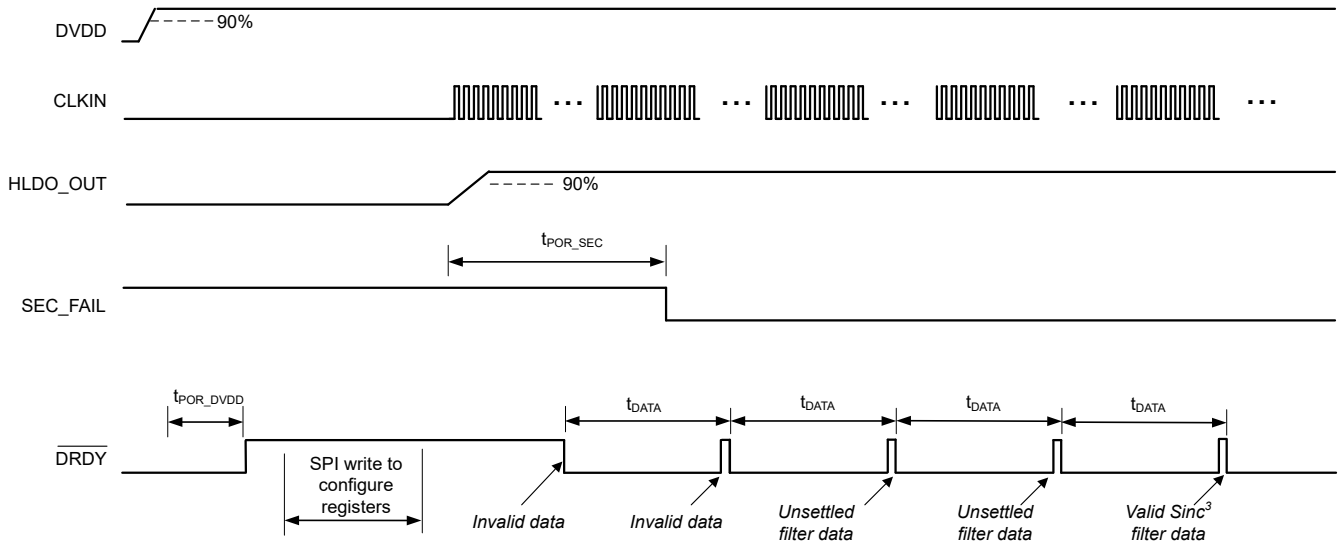
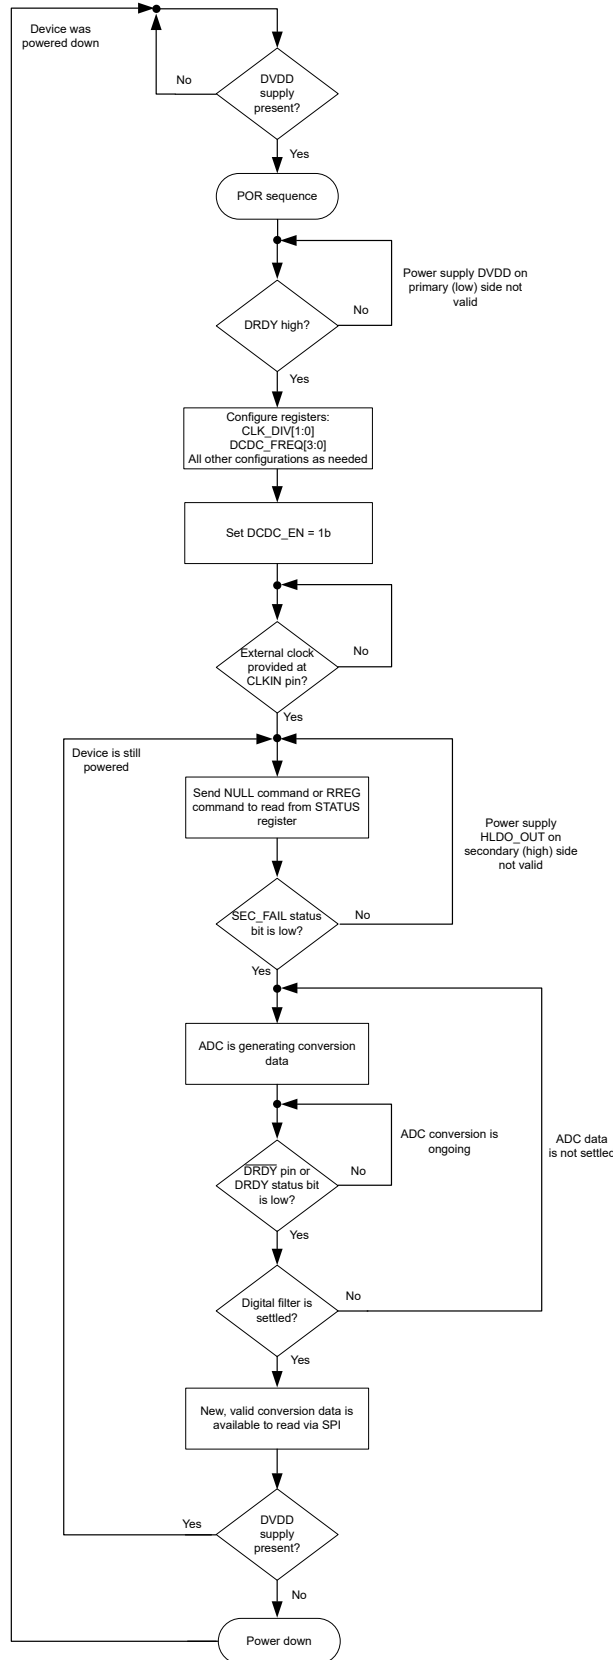

Figure 8-18. Start-Up Behavior at Power-Up and Settling Times, OSR = 1024
Figure 8-19. Flow Diagram for Start-Up Procedure at Power-Up
A recommended procedure for powering up the AMC131M03 is described in this section. Figure 8-18 depicts a timing diagram for the device behavior when this recommended sequence is used. Figure 8-19 provides a flow diagram that displays the recommended sequence in a graphical form.
- The high-to-low transition of $\overline{\text{DRDY}}$ indicates that new conversion data are available. As given in Figure 8-18, ADC data are only valid if the SEC_FAIL reads 0b during the conversion period. The first two conversion results shown in Figure 8-18, represent invalid data.
- When the ADC generates valid data, the digital filter must settle, as described in the *SINC³ and SINC³ + SINC¹ Filter* section. Two subsequent conversion results illustrated in Figure 8-18 are unsettled (assuming OSR equals 1024), and the last conversion result shown provides valid and settled data.
In Figure 8-18, $t_{\text{POR_SEC}}$ is the time from enabling the DC/DC converter to the first falling edge of the SEC_FAIL bit, which indicates that the secondary power supply at the HLDO_OUT pin is stable. $t_{\text{POR_DVDD}}$ is the time from DVDD supply at 90% to $\overline{\text{DRDY}}$ first rising edge.